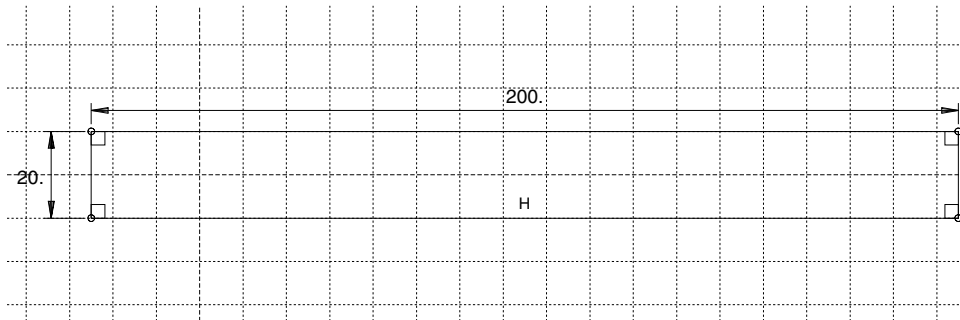

Figure B-5 Sketch of the rectangle.
- e. The final sketch is shown in Figure B-5.